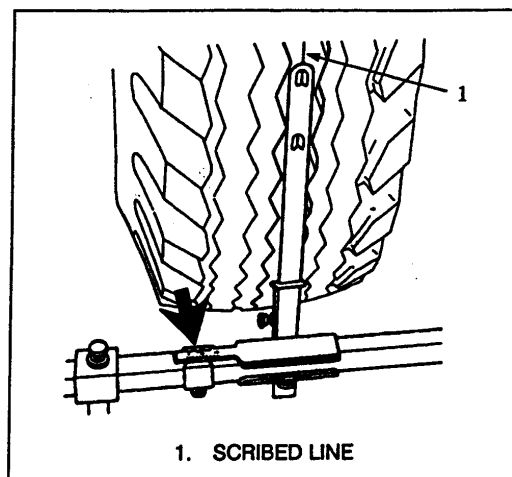

Figure 2
6. Set the sliding scale end of the trammel bar to zero (Figure 2) and lock the scale in place.
7. Put the trammel bar at the rear of the front tires so that the sliding scale that was set to zero in step 6 is centered against the scribed line on one of the tires (Figure 2).